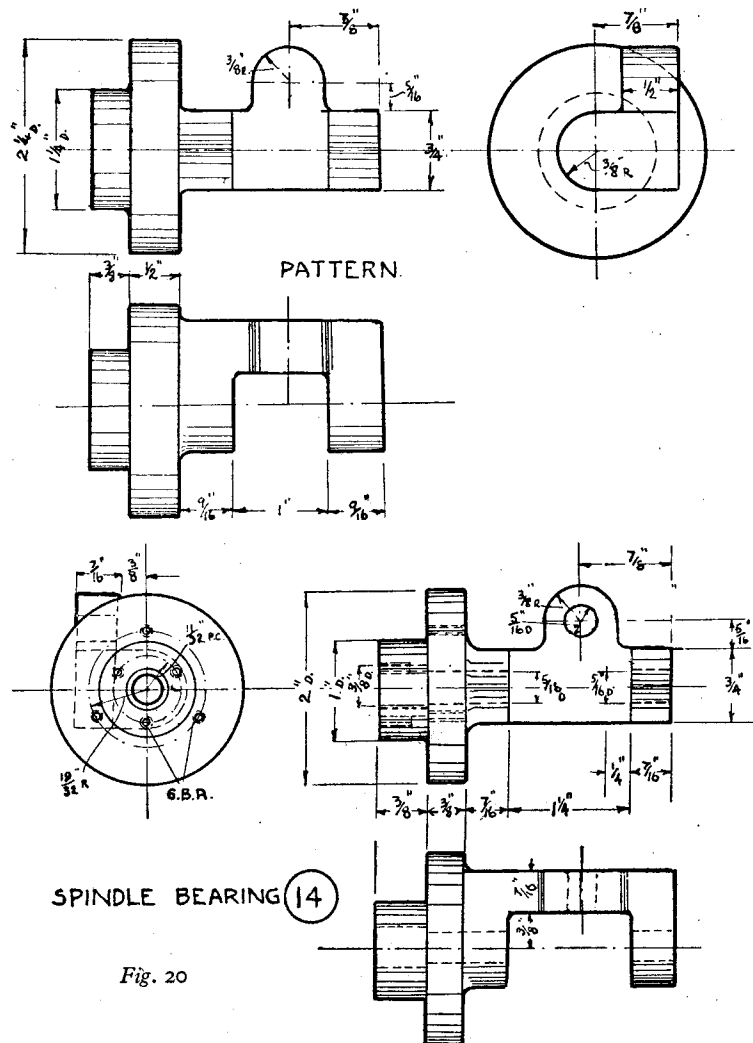

Fig. 20
The spindle bearing (14) is shown in Fig. 20 together with the pattern. This may be cast in iron or brass, iron, of course, being the cheaper, and, I think, preferable. The pattern is quite simple and needs no comment except that machine allowance has not been given all round but only on such surfaces that definitely require to be machined to offer a bearing surface; if it is desired that the other face be machined for appearance sake, then due allowance should be given.